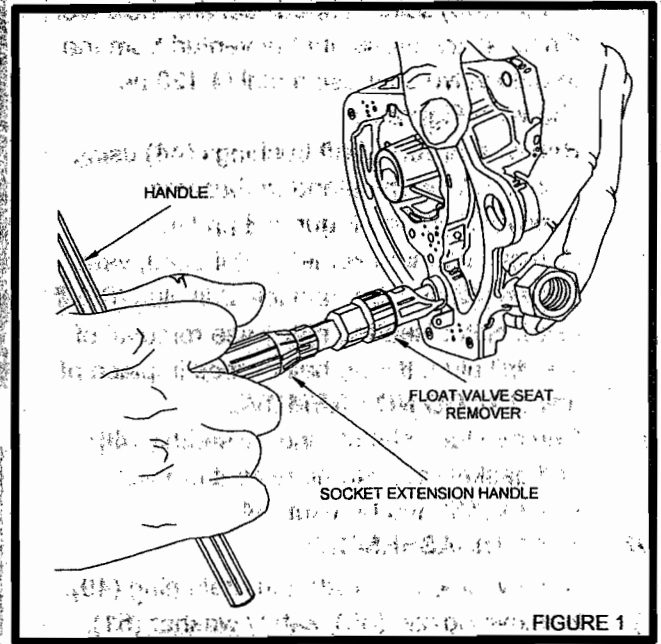

FIGURE 1
- 3) Remove float shaft cotter pin (3), shaft (4), float (5), and float valve (7).
- 4) Discard bowl gasket (8).
- 5) Remove pump link cotter pins (9), pump link (10), and pump plunger assembly (11). Note hole location of pump link in pump lever (13).
- 6) Remove accelerator pump lever screw (12), lever (13), and throttle opening spring (14). **NOTE:** Some models do not use spring (14). Refer to appropriate parts list section for proper configuration.
- 7) Remove pump packing washer (15) and pump packing (16) with a pointed tool or small screw driver.
- 8) Remove mixture control clamp screw (17) and safety washer (18).
- 9) Remove mixture control lever (19), lock wire loop (20), spring (21), thrust washer (22), and packing (23).
- 10) Remove mixture control valve (24), horseshoe washer (25), and washer (26).
- 11) Remove float valve seat (27) and gasket (28) using tool M-104 or a large screw driver. See Figure 1.
- 12) Make note of throttle lever position before removal. Remove throttle lever cotter pin (29), nut (30), and lever (31).
- 13) Remove throttle valve screws (32), valve (33), and throttle shaft (34).
- 14) Remove throttle adjusting screw (35), and spring (36).